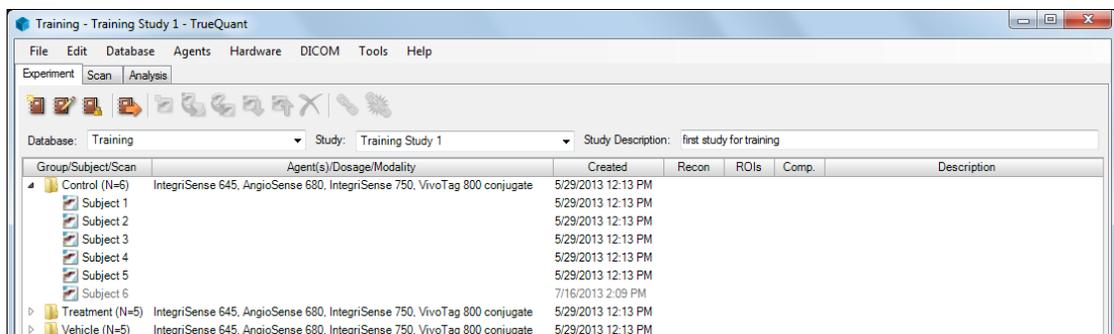

Figure 5-5. Subject 6 was removed from Group 1, and is shown in light gray
5. Click **OK** in the confirmation dialog to remove the subject from the group. The removed subject displays in gray text as shown in Figure 5-5.